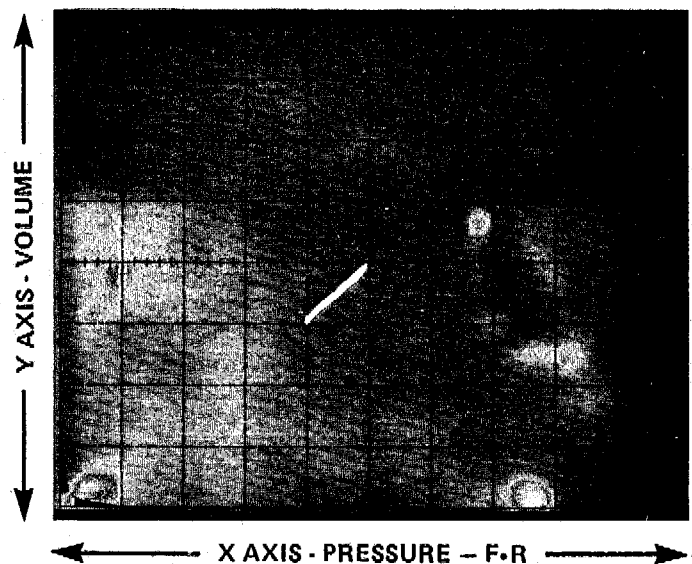

Figure 37 - Trace - End of Dynamic Compliance Curve
- k. Adjust the LOOP CLOSE control until the small loop becomes a straight line as shown in Figure 37. The loop closes because the equation: